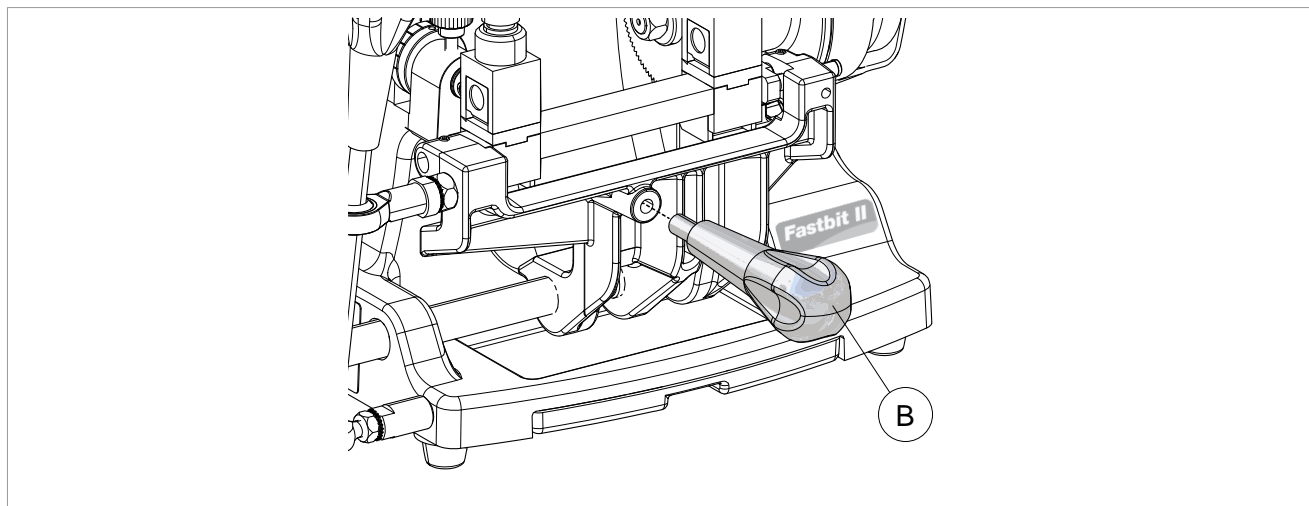

Fig. 11
Screw the handle (B) onto the carriage lever (Fig. 11).